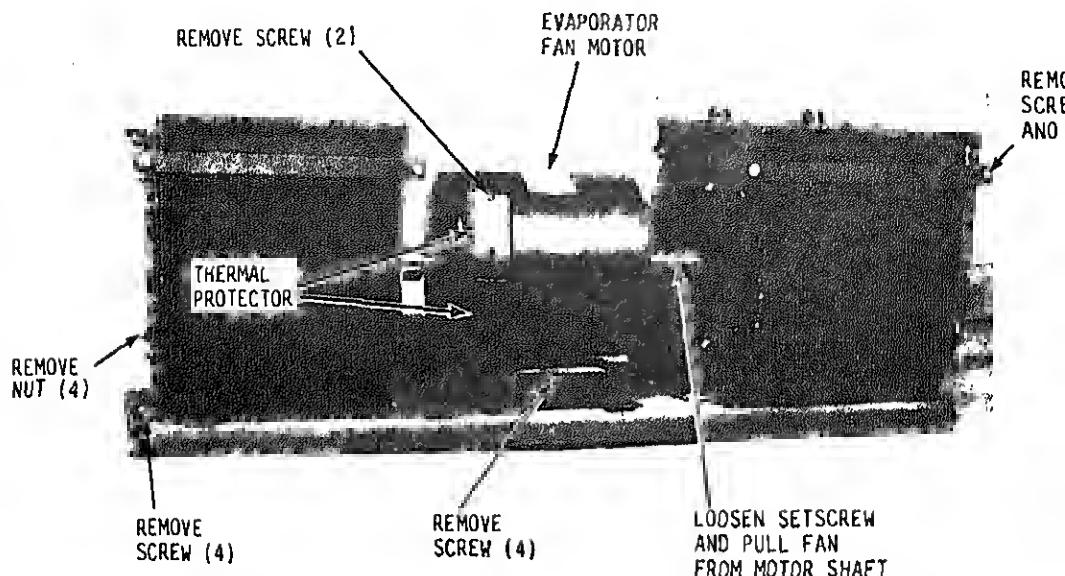

Figure 4-8. Evaporator, fan, motor, and thermal protector, removal and instal
(3) Refer to figure 4-8 and disassemble the fan and motor assembly.
(1) Refer to figure 4-8 and remove housing from the high and low speed motor winding thermal protectors. Refer to para 4-22c and test thermal protectors.
(2) Test the motor for open-circuited or grounded windings as follows.
(1) Refer to figure 4-8 and assemble the fan and motor assembly.
(1) Refer to paragraph 4-21c and remove evaporator fan and motor assembly.
(2) Refer to figure 4-8 and solder thermal protectors.
(1) Refer to figure 4-8, install thermal protectors.
(2) Refer to paragraph 4-21e and all evaporator fan and motor assembly.
(2) Refer to figure 4-8 and remove the thermal protector.
(1) Refer to figure 4-8 and install the thermal protector.